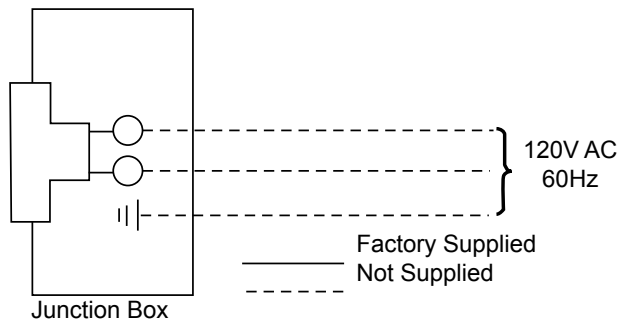

Figure 21 – Junction Box Wiring Diagram
3. The junction box cover has a factory installed “romex” style strain relief connector. After connecting the wires, route the wire leads through this connector. Refer to the wiring diagram in *Figure 21.*